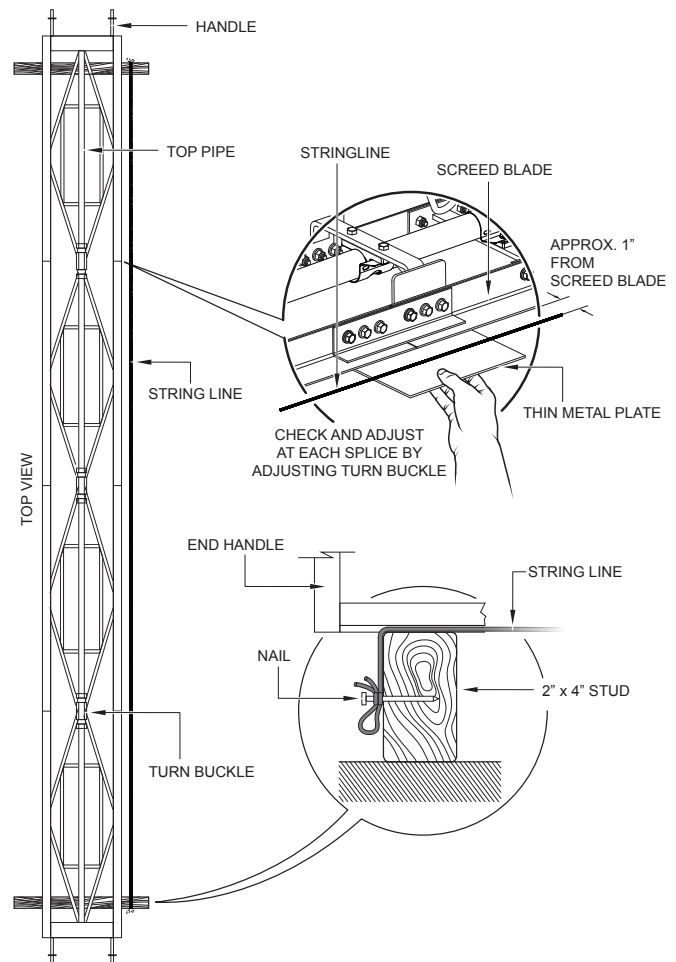

Figure 20. Blade Alignment
1. Place screed ends on a flat wooden support. Reference Figure 20.